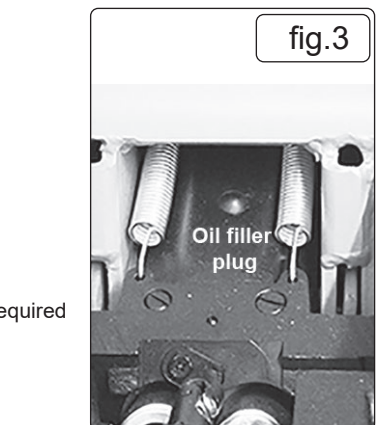

fig.3
- 7.3.2. With the jack in the level position, remove the oil filler plug (Fig.3).